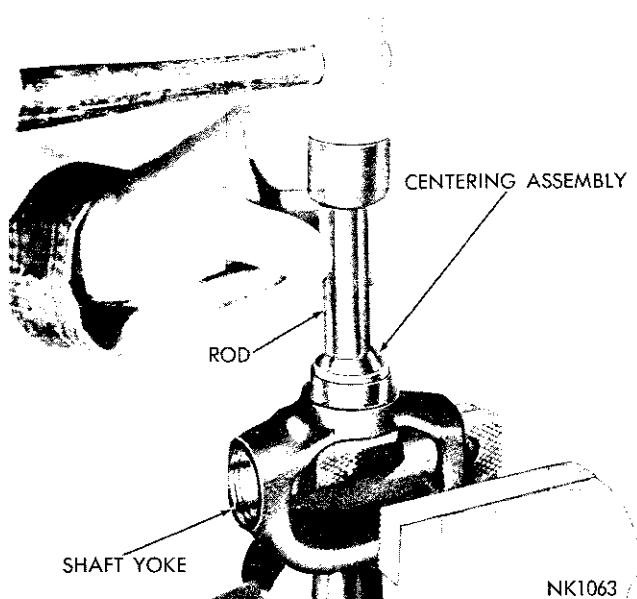

Fig. 29—Removing Centering Ball and Socket Assembly
(2) Remove the seal and bearing rollers from the centering ball.
(3) Fill the cavity behind the centering ball and inside the ball with Multi-Mileage Lubricant, Part Number 2298947.
(4) Insert a rod, slightly smaller than the inside diameter of the centering ball, into the ball and strike it sharply with a hammer (Fig. 29). The hydraulic force applied by the initial hammer blow will force the ball and retainer assembly from the yoke.